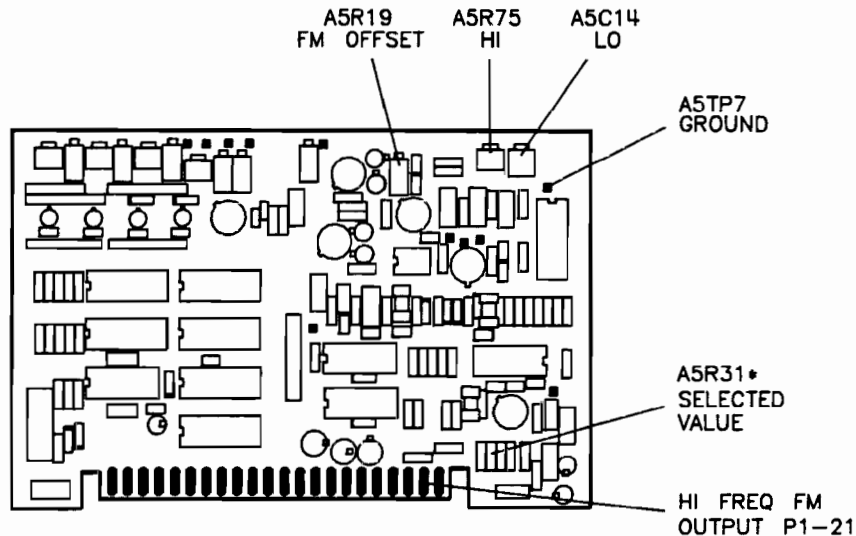

Figure 5-51. FM Driver Adjustment Location
3. Turn the HP 8350 AC power on and connect DVM HI to A5 board connector pin 21 and DVM LO to A5TP7 (Ground). Adjust A5R19 (FM OFFSET) for $0.00 \pm 0.0001V$. Refer to Figure 5-51.
12. Sweep the function generator frequency from 100 Hz to 100 kHz. Select resistor A5R31 (See Figure 5-51) so the amplitude at 100 Hz and at 100 kHz are the same ± 0.2 divisions on the screen.